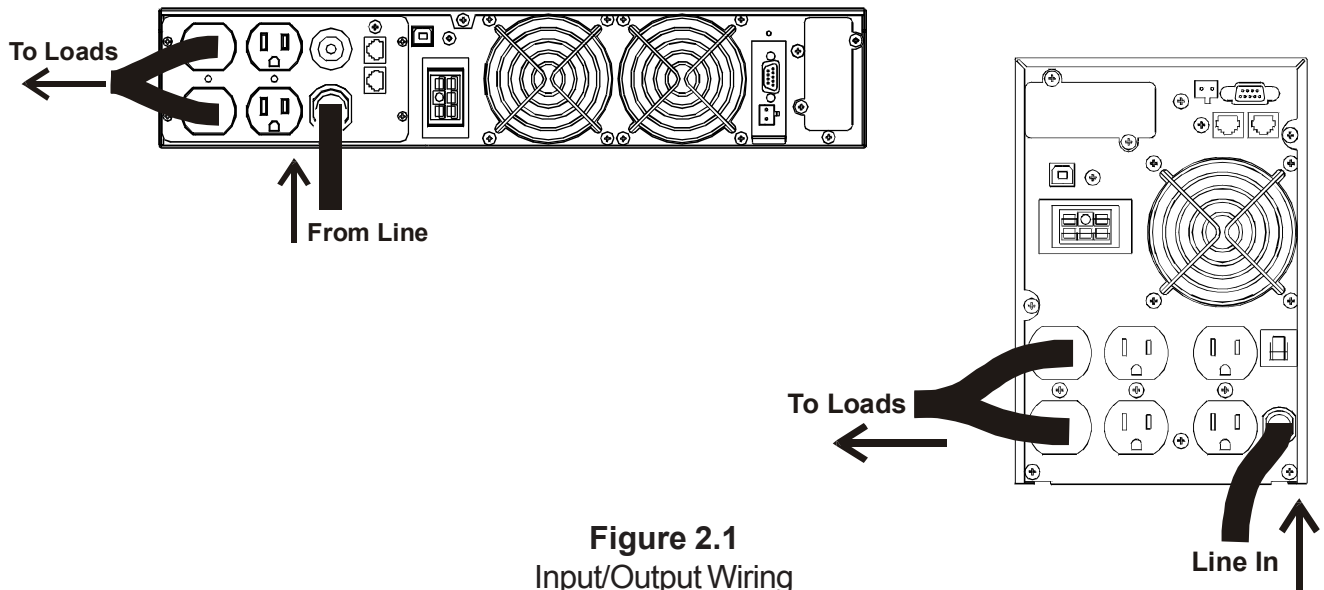

Figure 2.1
- 1 Connect the load(s) to the unit's output connector(s) (Figure 2.1).